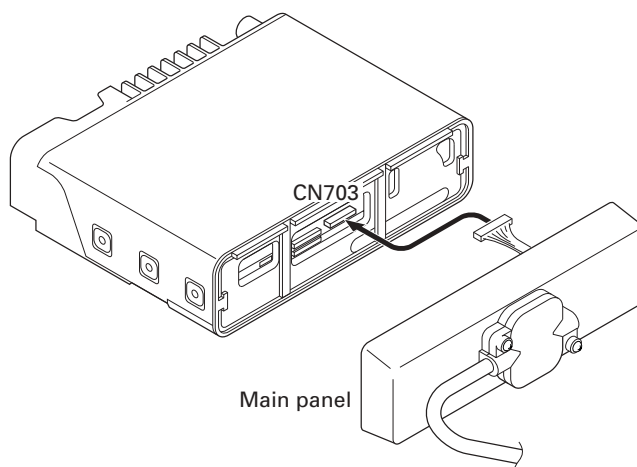

Fig. 5-3
8. Plug the connector from the main panel into the CN703 socket (Figure 5-3).